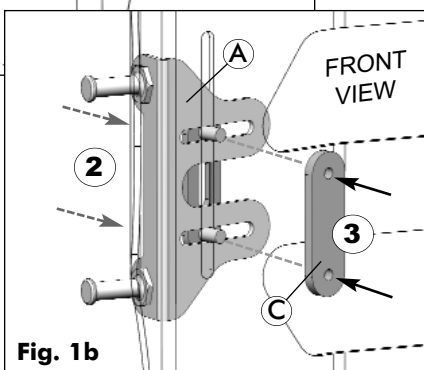

Fig. 1b
- From the rear of the back shell, install the 2 protruding screws from the mounting bracket through the vertical slot in the MX2 back shell (2); (Refer to Fig. 1b)
- To secure the mounting bracket to the Mx2 back shell, thread the screws into the nut plate (D) on the front (inside) of the back shell (3); (Refer to Fig. 1b)
- 2 Install the remaining quick-release mounting bracket (A) onto the opposite side of the back shell (as per Step 1 above).